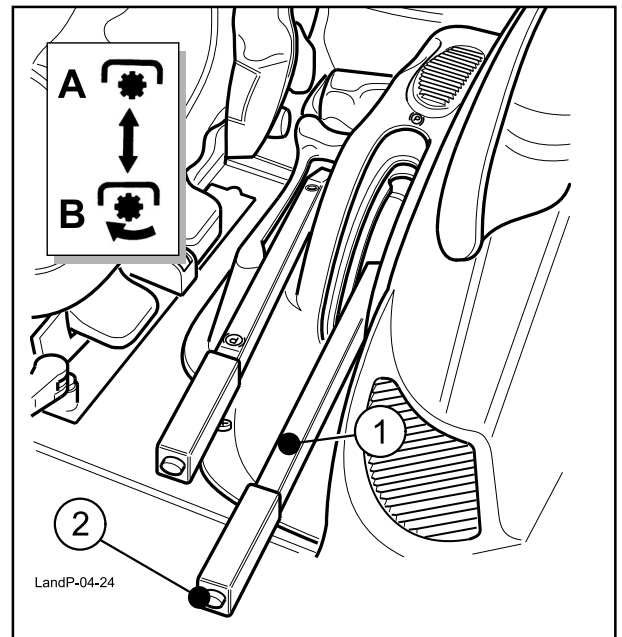
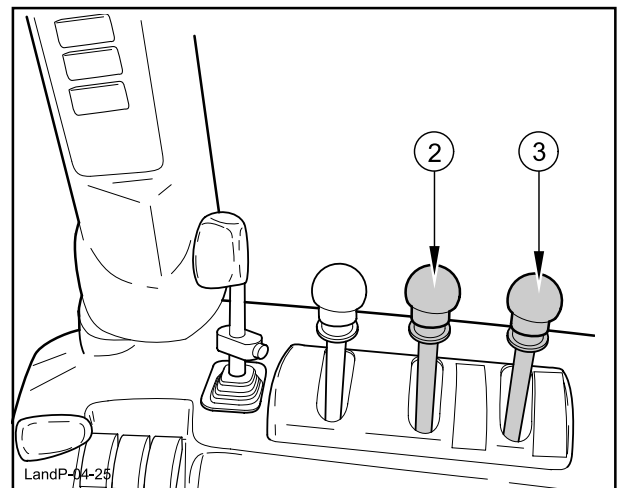

Fig. 4-24 Mechanical PTO clutch engagement lever (1).
Fig. 4-25
Mechanical PTO controls - Fig. 4-24 and Fig.4-25
- 1 - PTO clutch engagement lever (1 - Fig.4-24).
- 2 - Independent or synchronized PTO selector lever (2 - Fig.4-25).
- 3 - 540/540ECO RPM or 540/1000 RPM PTO selector levers (3 - Fig.4-25).
Power take-off clutch control lever (1 - Fig. 4-24):
Power take off operating mode selector lever (2 - Fig. 4-25)
CAUTION: When the PTO is not used, keep the control lever (1 - Fig. 4-24) of the relative clutch in the forward position (clutch engaged) and disengage the PTO with the relative control (2 - Fig. 4-25). When working with the PTO, only disengage the relative clutch for the time strictly required to carry out the various manoeuvres.
To switch from 540 RPM to 1000 RPM (or 540ECO RPM) and vice versa, use the speed selector hand lever (3 - Fig. 4-25) that can have three positions:
Synchronized use of the rear power take-off (lever 2 - Fig. 4-25) with the gearbox is solely designed for towing self-driven trailers and, more generally, for all those farming implements which have to operate in synchronism with tractor movement and which do not require more than 40 - 45% of rated engine power. Engage the synchronized PTO with the tractor at a standstill; disengage the gearshift clutch by depressing the clutch pedal.
1. The lock screw (3) is on the engagement cable of the synchronized PTO on the left-hand side of the tractor.
2. Shift the selector lever (2 - Fig.4-25) in neutral or in independent PTO position.
3. Remove the check nut (1).
4. Loosen the screw (3) and remove it together with the nut (2).
1. Shift into the independent PTO position (2, Fig.4-25) the synchronized PTO engagement lever.
2. Fit the lock screw again (3) with the nut (2). Tighten the screw.
3. Shift the synchronized PTO engagement lever into the central neutral position (2, Fig.4-25) .